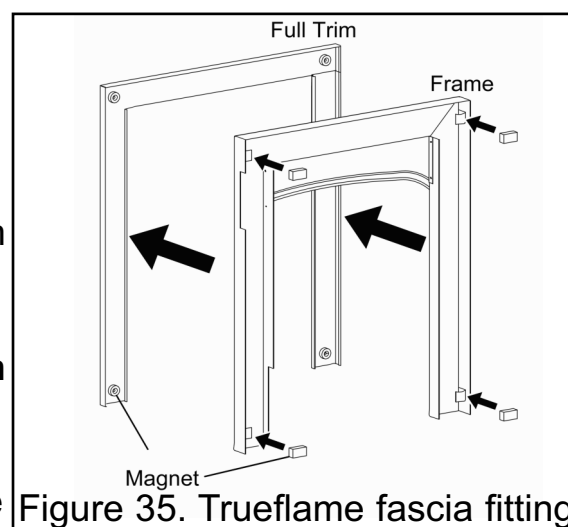

Figure 35. Trueflame fascia fitting
2. Place 4 magnets onto the brackets located on the frame (See figure 35).